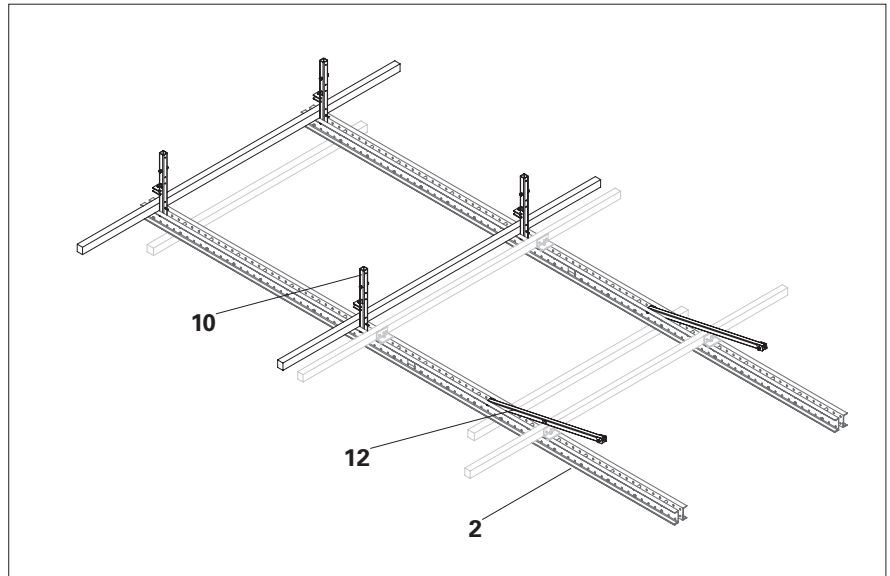

Fig. E1.05
4. Remove crossbars (**10**) and diagonal struts (**12**) from the climbing rails (**2**). (Fig. E1.05)